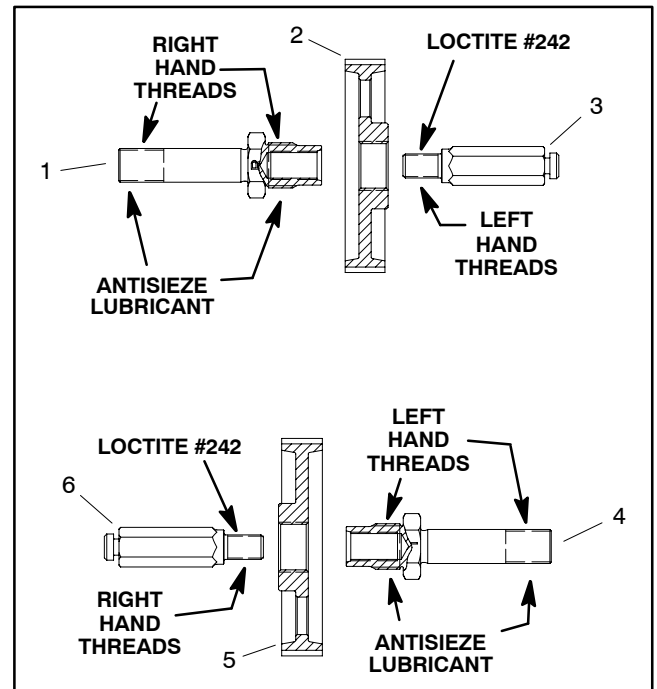

Figure 29
4. Loosen set screws that secure bearings (item 8) to drum shafts.
**NOTE:** The right side wheel shaft has left hand threads (Fig. 29).
6. Loosen and remove both transport wheel shafts (item 1).
**NOTE:** The left side drum pulley has left hand threads (Fig. 29).
7. Loosen and remove both drum pulleys (item 2).
**NOTE:** The left side drum shaft has left hand threads (Fig. 29).
8. Unscrew both drum shafts (item 6) from traction drum assembly.
9. Locate and remove drum spacer (item 11) from each side of traction drum assembly.
11. If necessary, remove bearing flangettes (item 7) and bearings (item 8) from machine frame.
6. Apply anti-seize lubricant to drum shaft (item 6) threads and install shafts through bearings, spacers and into drum. Torque drum shafts from 65 to 75 ft-lb (88 to 102 N-m).
7. Tighten the fasteners that secure the bearing flanges (item 7) to the machine frame. Tighten the bearing set screw to secure the bearings to the drum shafts. Torque set screws from 40 to 50 in-lb (4.5 to 5.7 N-m).
8. Apply anti-seize lubricant to the external threads of the drum shafts. Secure both drum pulleys (item 2) to the drum shafts.
9. Apply Loctite #242 (or equivalent) to the threads of the transport wheel shafts (item 1). Install wheel shafts into drum drive shafts. Torque wheel shafts from 45 to 55 ft-lb (61 to 75 N-m).